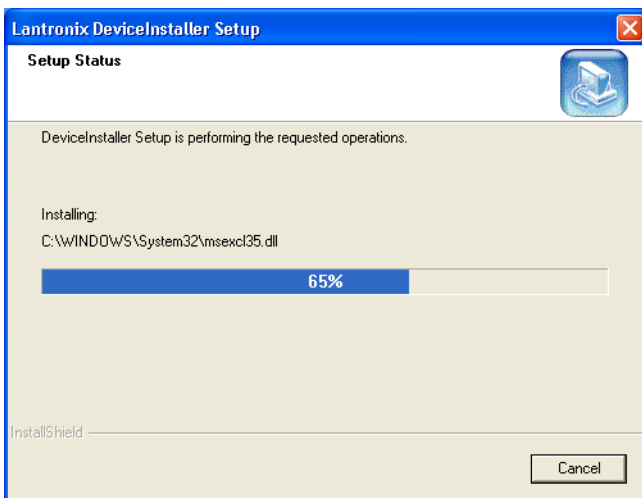

Figure 15: Setup Status
14. Now the installation wizard displays a status bar showing the DeviceInstaller Setup Status (see Figure 15).